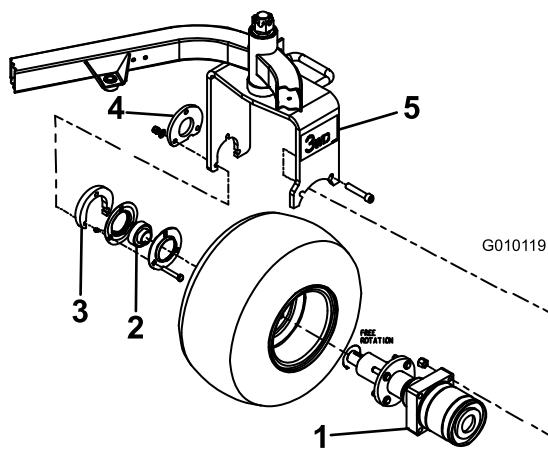

Figure 3
1. Remove the grease fitting from the new motor and hub assembly (Figure 3).
4. Insert flangettes and bearing onto end of motor shaft as shown in Figure 3.
- Mount the (2) straight fittings to the side of the motor assembly (Figure 3).
- Position the motor hub, flangettes with bearing, adapter plate and tire assembly into caster fork. Ensure that ports on motor face rearward (Figure 3).
- Loosely secure motor to the inside of caster fork with (2) socket-head screws and (2) nuts (Figure 3).
- Loosely assemble flangettes with bearing to inside of caster fork with (3) new 3/8 x 2 inch screws, adapter plate, spacer mount, (3) 13/32 x 13/16 hardened washers and (3) 3/8 inch locknuts.
Note: The grease fitting must be in the downward position on the flange (Figure 3).
- Apply a decal to each side of caster fork (Figure 3).